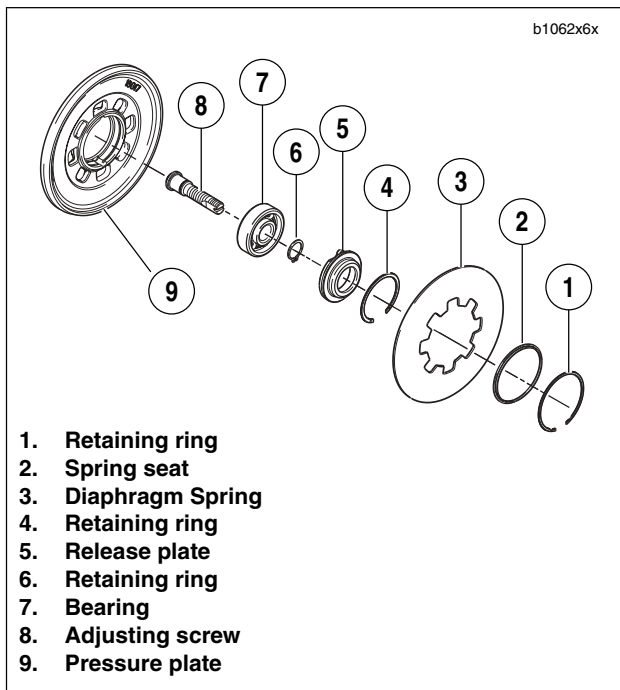

Figure 6-20. Adjusting Screw Assembly
10. See Figure 6-20. Remove and disassemble adjusting screw assembly.
- c. If necessary, disassemble adjusting screw assembly. Remove and discard small retaining ring (6) and then separate the adjusting screw (8) from the bearing (7) and release plate (5). Remove bearing (7) from release plate (5).